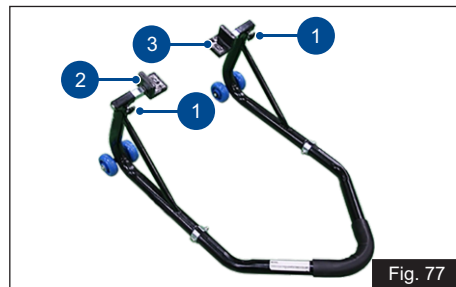

Fig. 77
- ♦ Loosen the clamping screws (1) of the stand adopters.
- ♦ Move away the adopters (2 & 3) in such way that the swing arm fits between them (ref. Fig. 77).